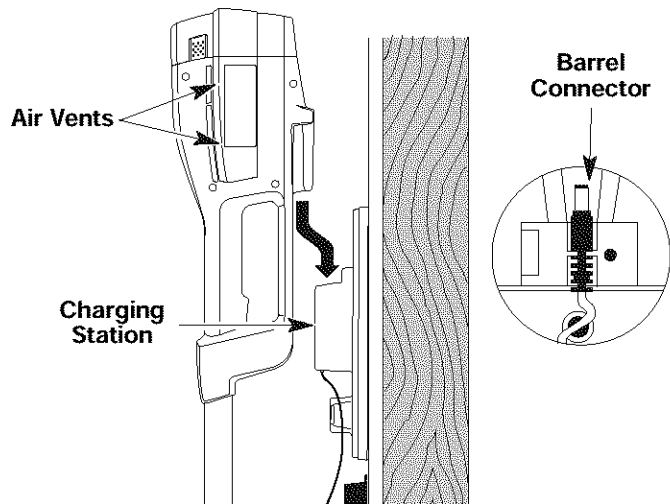

Fig. 4
1. Slide the unit down into the charging station until it is firmly seated (Fig. 4). The barrel connector in the charging station will insert into the unit. If it doesn't, refer to *Replacing the Charger*.
NOTE: The battery will heat up while the unit charges. Be sure the air vents on the battery housing are kept clear for proper ventilation (Fig. 4).